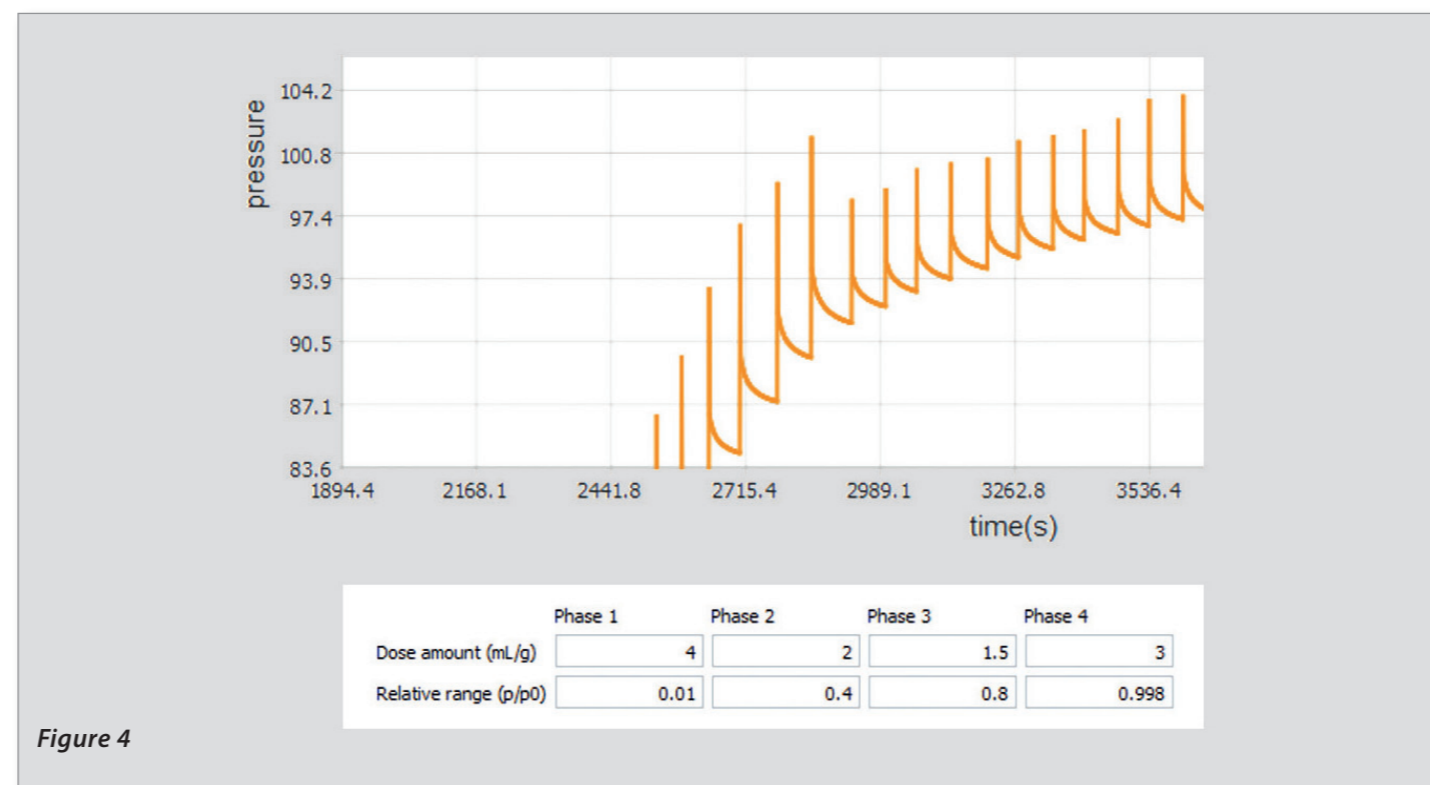

Figure 4
- Change of dose amounts and equilibration settings **on-the-fly**, a restart of the analysis is not necessary (Figure 4).